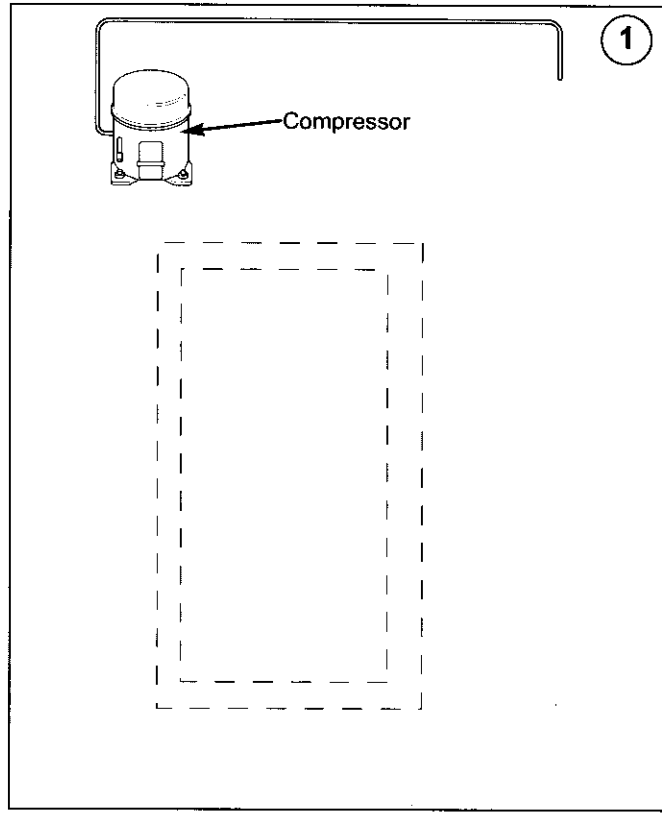

Figure 4-1. Compressor
### (1) - Compressor (Figure 4-1)